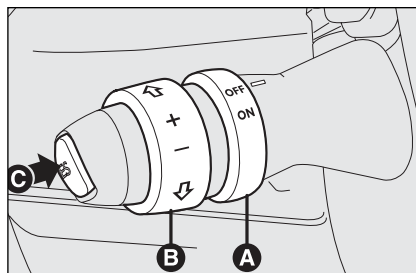

fig. 56
Turn knurled ring **A-fig. 56** to **ON**.
- ☐ turn the knurled ring **A-fig. 56** to **ON** and press the accelerator pedal to the required speed;
- ☐ press button **C-fig. 56**.
- ☐ turning the knurled ring **B-fig. 56** temporarily to (+).
- ☐ keeping the knurled ring **B-fig. 56** to (–) until reaching the new speed which will be memorised automatically.
Turn the knurled ring **A-fig. 56** to **OFF** or the ignition key to **STOP**. The device is automatically deactivated also in one of the following cases:
*In the event of device malfunction or failure, turn the knurled ring **A-fig. 56** to **OFF** and contact a Fiat Dealership after checking the protection fuse integrity.*